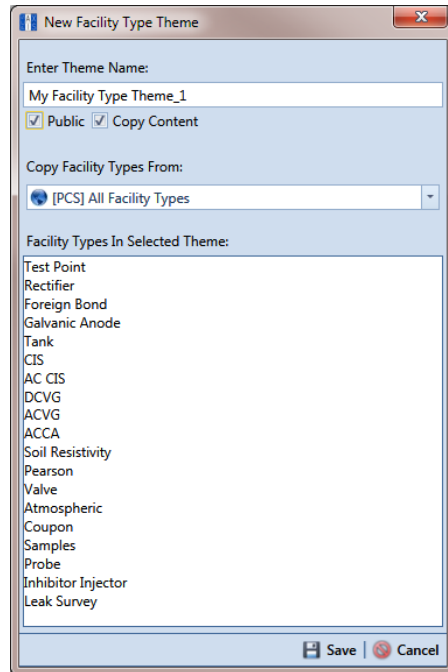

Figure 14-4. New Facility Type Theme
- 2 Click  **Add** to open the *New Facility Type Theme* dialog box (Figure 14-4, page 604).